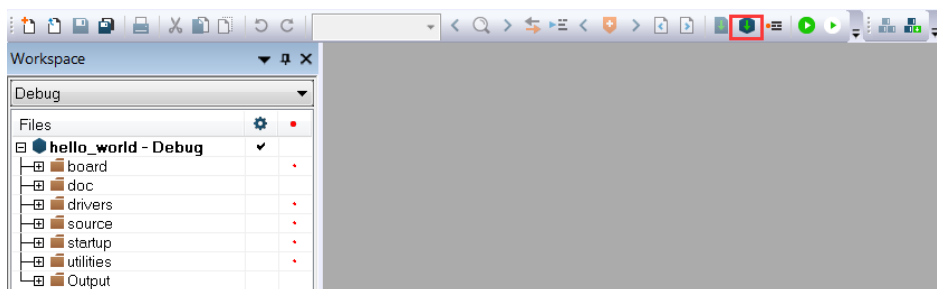

Figure 10. Build the demo application
3. To build the demo application, click **Make**, highlighted in red, as shown in Figure 10.